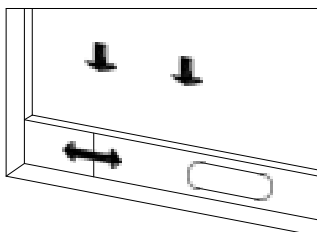
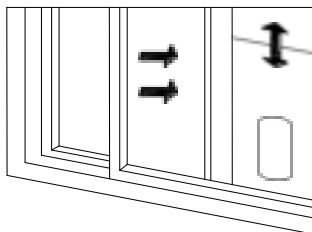

Figure 2
Figure 3
- Half open the window , and mount the window sealing plate assembly to the window (as shown in Fig.2 and Fig.3).Components can be placed in horizontal and vertical direction.